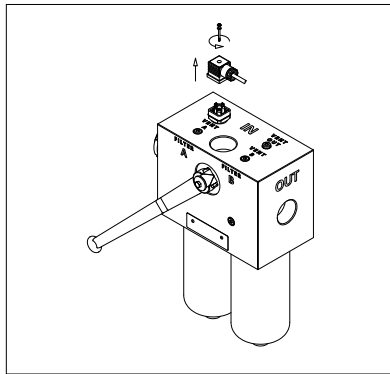

fig. 19
- (Fig. 19) Remove the connector of the differential indicator by unfastening the central screw (only for electrical indicators)
- For the mounting/dismounting of the indicator, please refer to the paragraph "Clogging indicator replacement" above (Fig. 19÷22)